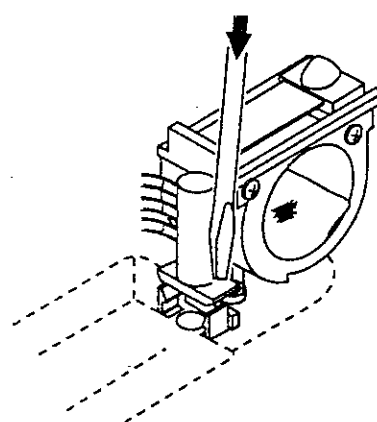

Fig. 10
Step 7 Connect air socket. See Fig. 10. Insert air socket between latches of bottom case using screwdriver.